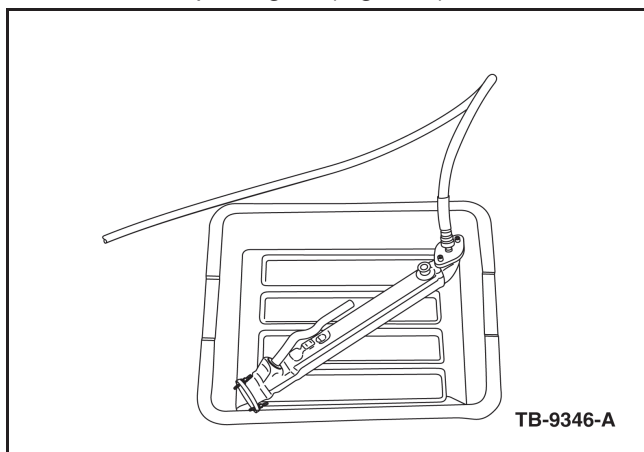

Figure 2 - Article 09-18-12
- d. Submerge the EGR cooler horizontally in the water, with the coolant ports pointing upward. Manipulate the cooler under water to purge all trapped air from the internal coolant passages. (Figure 2)